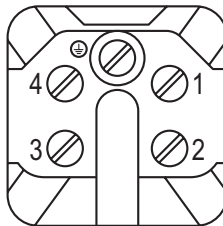

Fig. 8
5. Connect the terminals (Fig. 8) in the contact block 22 according to the **Functions table on page 17**.